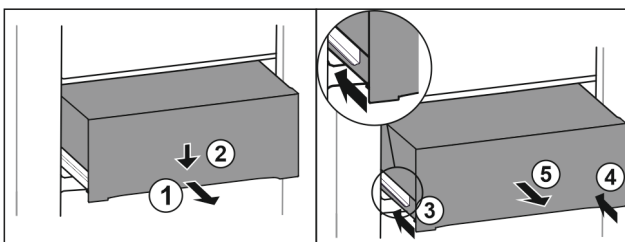

Fig. 188
- ▶ Pull out drawer half-way. Fig. 188 (1)
- ▶ Push the drawer down at the front. Fig. 188 (2)
- ▶ Push the left rail in by about 2 cm. Fig. 188 (3)
- ▶ Push the right rail in by about 2 cm. Fig. 188 (4)
- ▶ Remove drawer to the front. Fig. 188 (5)